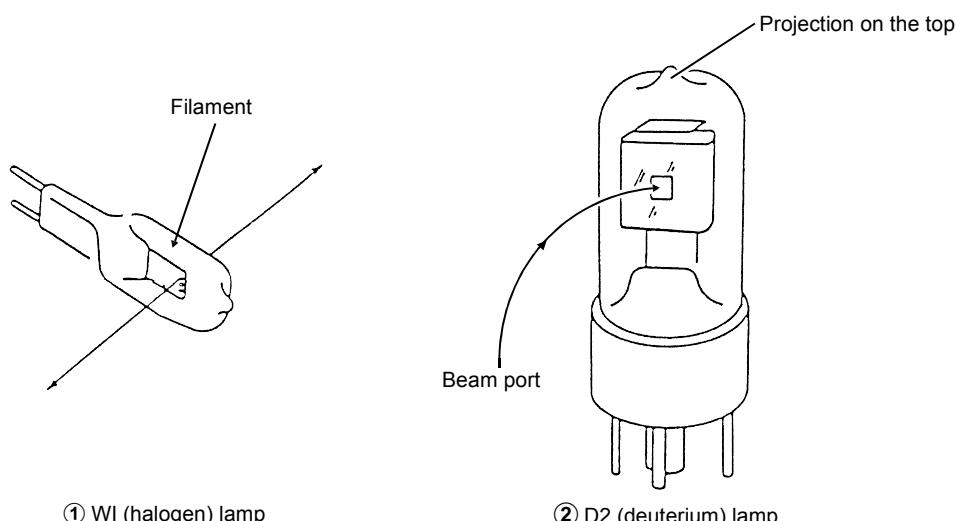

Fig.4-1 Light Source Overview
- When removing and installing the light source compartment cover, avoid hitting the protrusion (Fig.4-1) on the top of the D2 (deuterium) lamp against the back of the cover. Doing so may cause a vacuum leak in the lamp tube.